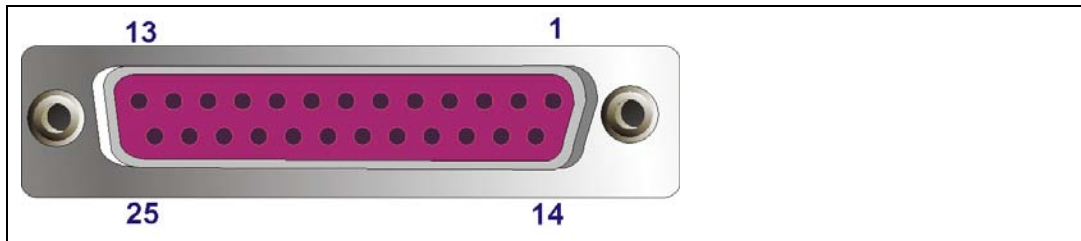

Figure 4-22: Parallel Port Connector Location
- CN Pinouts:** See Table 4-23 and Figure 4-22